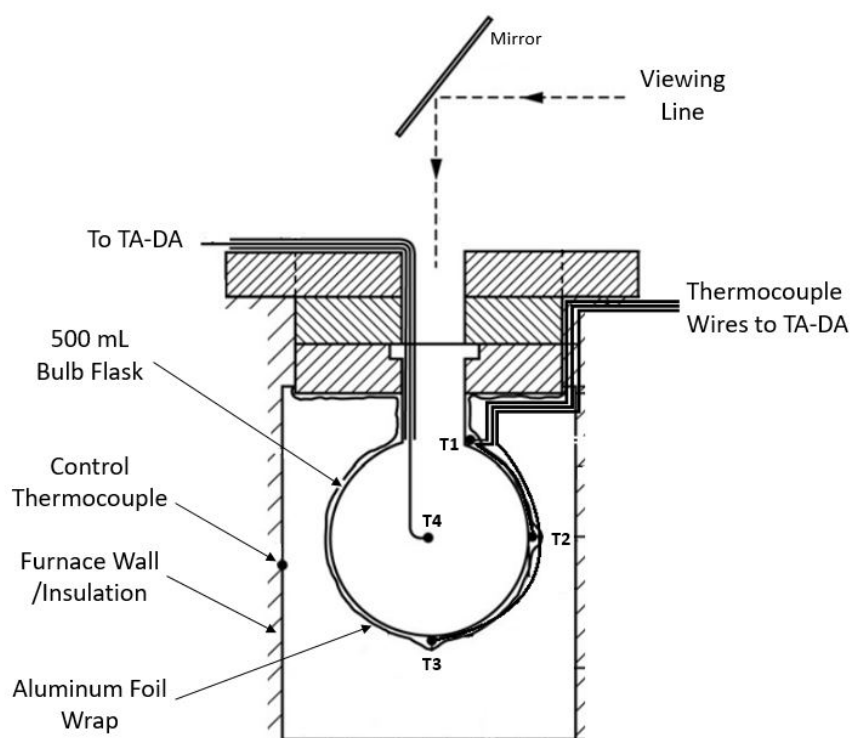
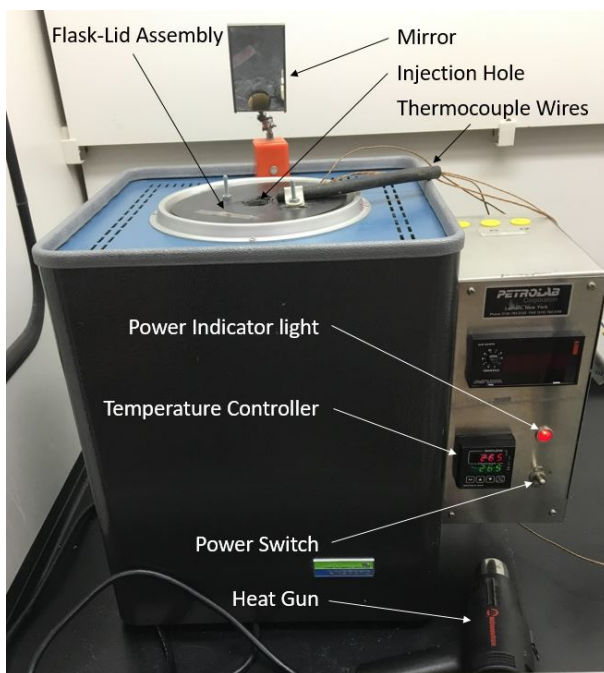

Figure 4: Diagram of the furnace when assembled
Figure 6: AIT Furnace
- The final setup should resemble Figure 4
- The furnace, shown in Figure 6, is an encased stack of ceramic insulation with cavities cut out to allow space for the heating elements and the test flask (see Figure 4 for an internal diagram of the furnace). The furnace is controlled with measurements taken at the insulated furnace wall. This design causes the furnace to have large temperature gradients while in operation. As a result, the setpoint temperature and the flask temperature will almost always differ significantly (as much as 25 K in some cases). Therefore, setpoints must be chosen between approximately 10 - 20 K above the desired temperature to reach that temperature inside the flask. **The reported AIT must be taken from the internal flask temperature (Thermocouple 4) and NOT the control thermocouple inside the furnace**
- Furnace Operation (See Figure 6):